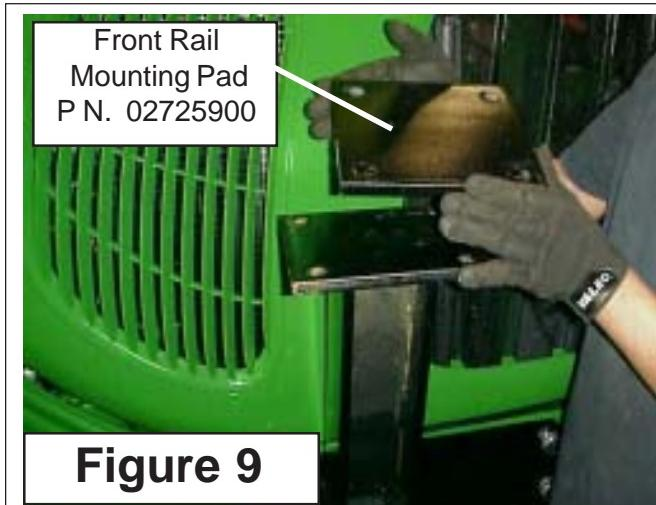
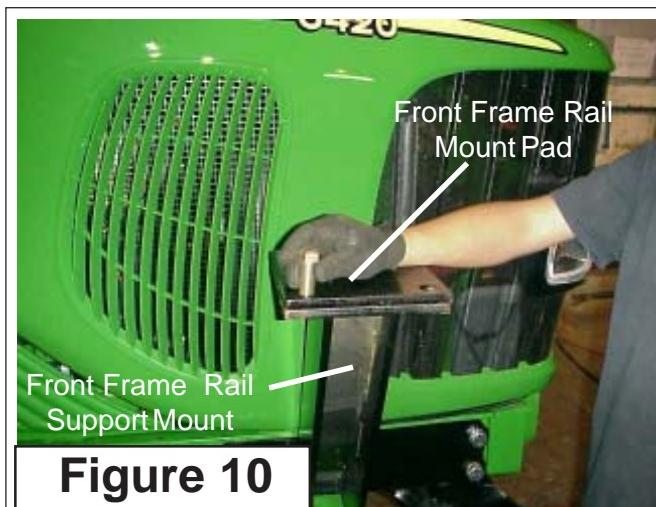

Figure 9
Figure 10
4. Front Rail Mounting Pad. There are two of these Pads; one is used on the left and one on the right. These Pads are the same so it will not matter which goes on which side. (**See Figure 9**). Set the Pad down over the Front rail Support aligning the four holes in pad with the four holes Support. Insert the four Bolts into the mount pad and plates on front support mount (**See Figure 10**). Install a nut on one or two of the Bolts but do not tighten them, the Bolts are only installed to prevent the Pad from moving side to side.